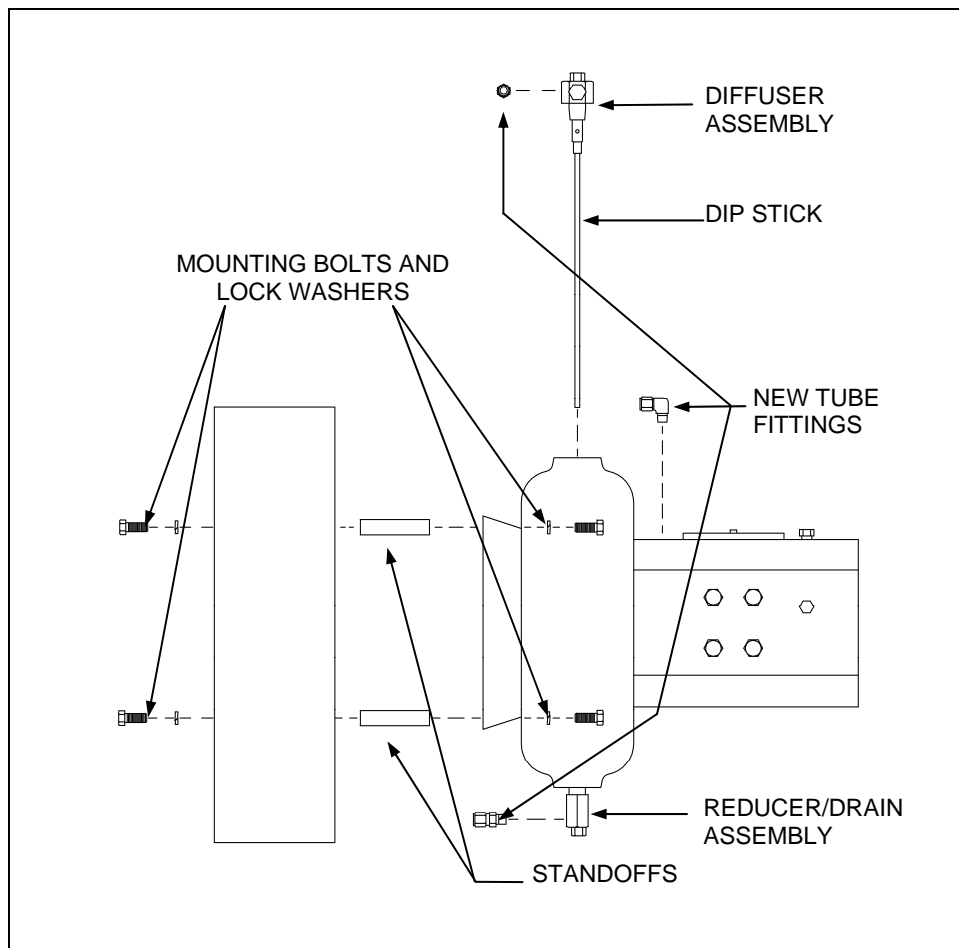

Figure 3: Installing New Control
1. Using 4 of the 8 mounting bolts and lock washers, install the four standoffs to the mounting bracket. Do not tighten the bolts. (See Figure 3)
4. Apply an appropriate pipe sealant and install the new Reducer/Drain Assembly in the bottom of the gas hydraulic tanks if applicable. (See Figure 3)
20. Install new Swagelok® fittings in the hand pump, actuator upper head, ESD valve, poppet block control and tanks. Apply an appropriate pipe sealant to the threads. (See Figures 3, 6, 7, 9 and 10A or 10B)
21. Run tubing from the bottom of the gas hydraulic tanks to the suction ports located at the bottom of the hand pump valve body. Right tank (CLOSE) to the right suction port and the left tank (OPEN) to the left suction port, as you are facing the new hand pump (see Figure 3 and 9).
22. Run tubing from the discharge ports located on top of the hand pump valve body, or optional speed controls, if applicable. The right side of the pump runs to the port on the right in the upper head of the actuator (as you are facing the new hand pump). The left side of the pump runs to the port on the left in the upper head of the actuator. (Make sure you are using the ports in the upper head closest to control box, not the ones on the far side see Figure 3, 9 and 10A or 10B).
23. Run tubing from the CLOSE cylinder port of the poppet block control valve to the port in the diffuser assembly on top of the closing gas hydraulic tank (see Figure 3, 7 and 10A or 10B)
24. Run tubing from the OPEN cylinder port of the poppet block control valve to the port in the diffuser assembly on top of the opening gas hydraulic tank (see Figure 3, 7 and 10A or 10B).